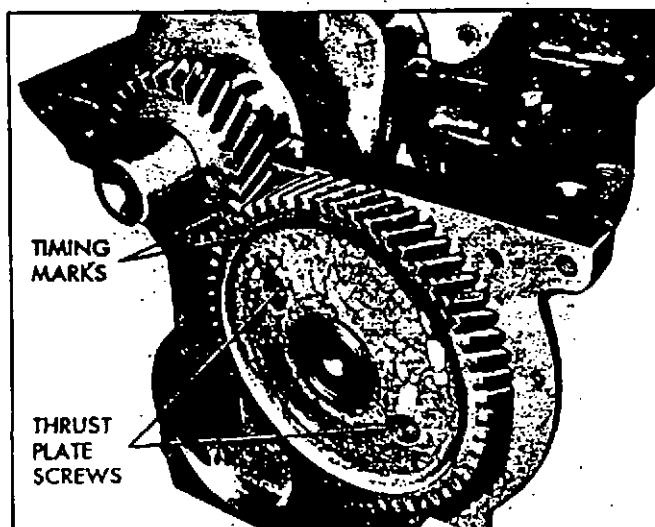

Fig. 16L—Timing Gear Marks
6. Align timing gear marks then remove the two camshaft thrust plate bolts by working through holes in the camshaft gear (fig. 16L).
2. Turn crankshaft and camshaft so that the valve timing marks on the gear teeth will line up (fig. 16L).